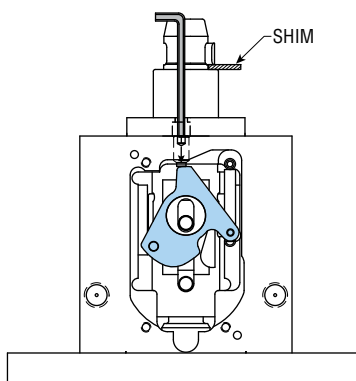

FIGURE 4
- 4) Turn the adjustment screw clockwise until it contacts the top of the lock bracket (see Figure 4).